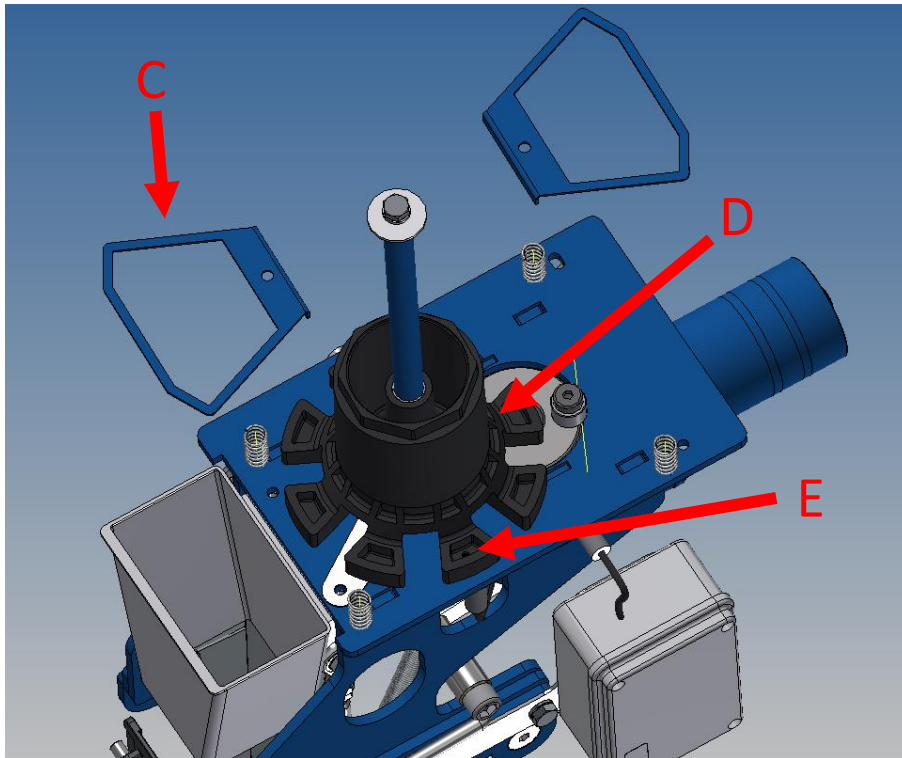

Figure 2: cup covers on discharge, intermitter, screw on intermitter
- point C, *figure 2*: **plant discharge**.
- point D, *figure 2*: **intermitter**.
- point E, *figure 2*: **screw on intermitter**.
- insert the distributor above the intermitter so that one of the two blue cup covers is on the plant discharge point (point C, *figure 2*);